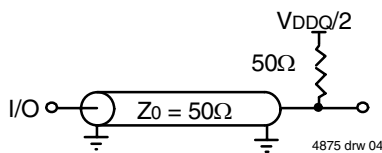

Figure 1. AC Test Load
AC Test Load	See Figure 1
4. These parameters are guaranteed with the AC load (Figure 1) by device characterization. They are not production tested.